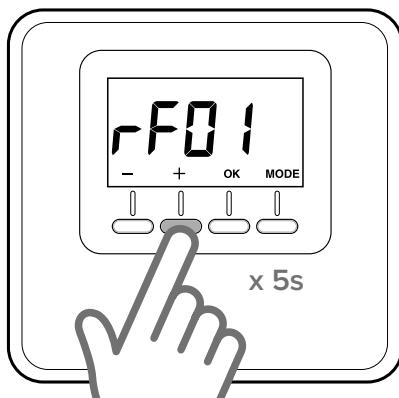

Fig. 7
- Hold “+” down for 5 seconds again to enter the technical parameters menu; parameter “rFO1” will display (Fig. 7)